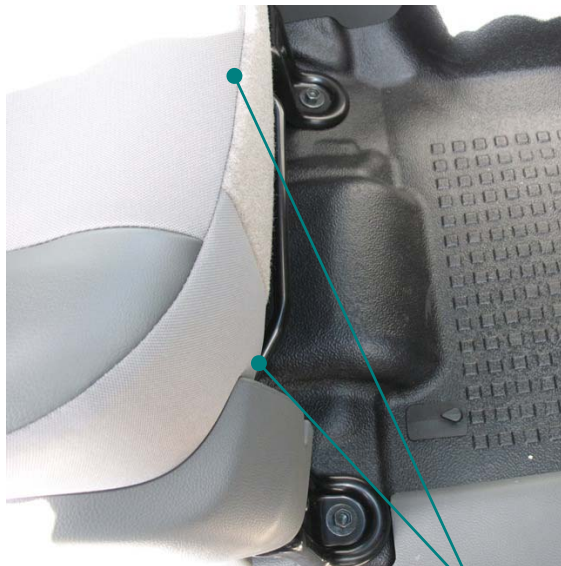

FIGURE 1
1. Using a 14mm socket, remove the two front seat bolts on the passenger's seat (Figure 1).